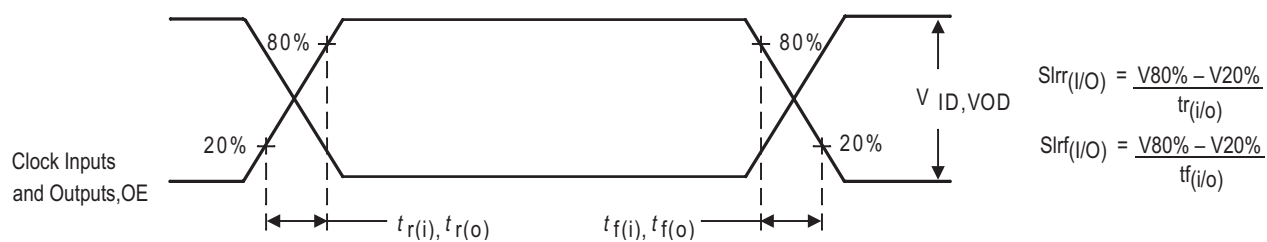

Figure 9. Input and Output Slew Rates
- V_{ID} is the magnitude of the difference between the input level on CK and the input level on \overline{CK} , see Figure 9 for definition. The CK and \overline{CK} , V_{IH} and V_{IL} limits are used to define the DC low and high levels for the logic detect state.